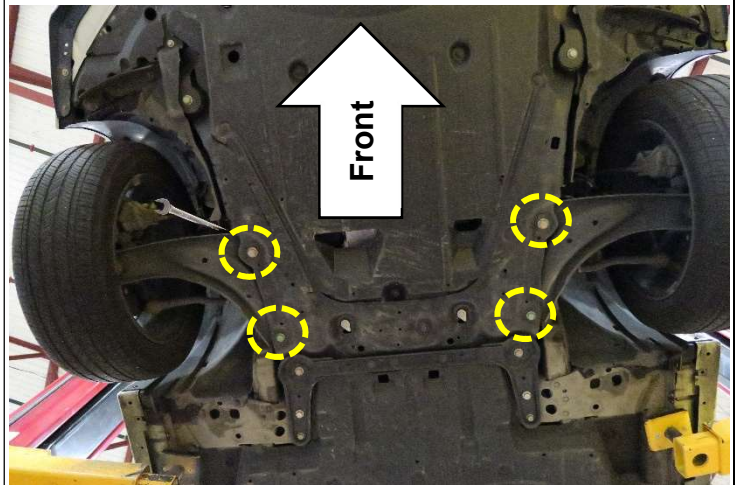

Figure 1
2. Locate all 4 Transverse Link Bolts (Figure 1).